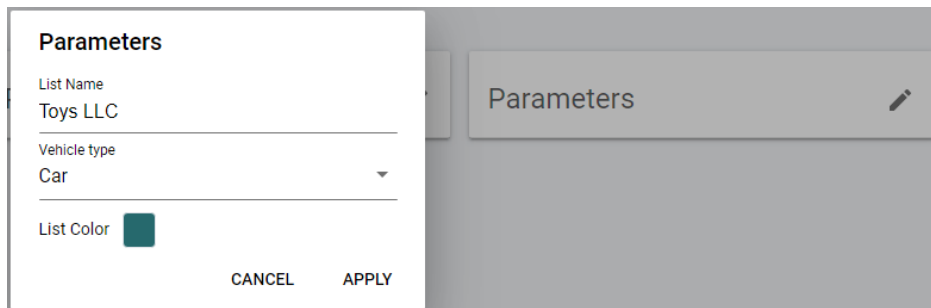

Figure 11.3.4.10
6. Fields, when clicked, it redirects to the edit page and adds additional fields for the list (Figure 11.3.4.11).